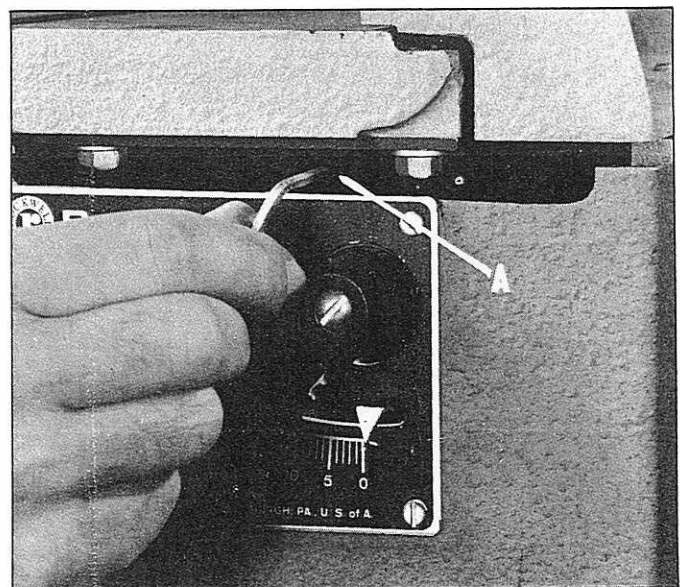

Fig. 14.
3. Move the table to the  $90^{\circ}$  position and adjust the center gib adjusting screw (A) Fig. 14.